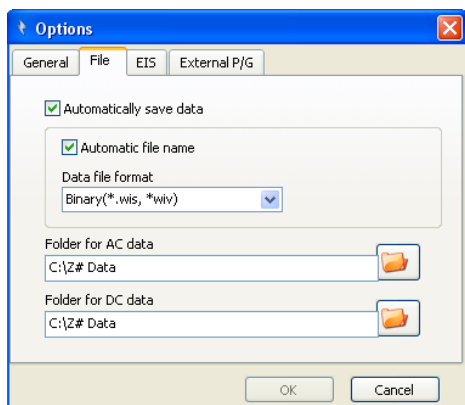

Figure 13 Options: File menu
**Options Menu** See Figure 13 and the following sub- menus